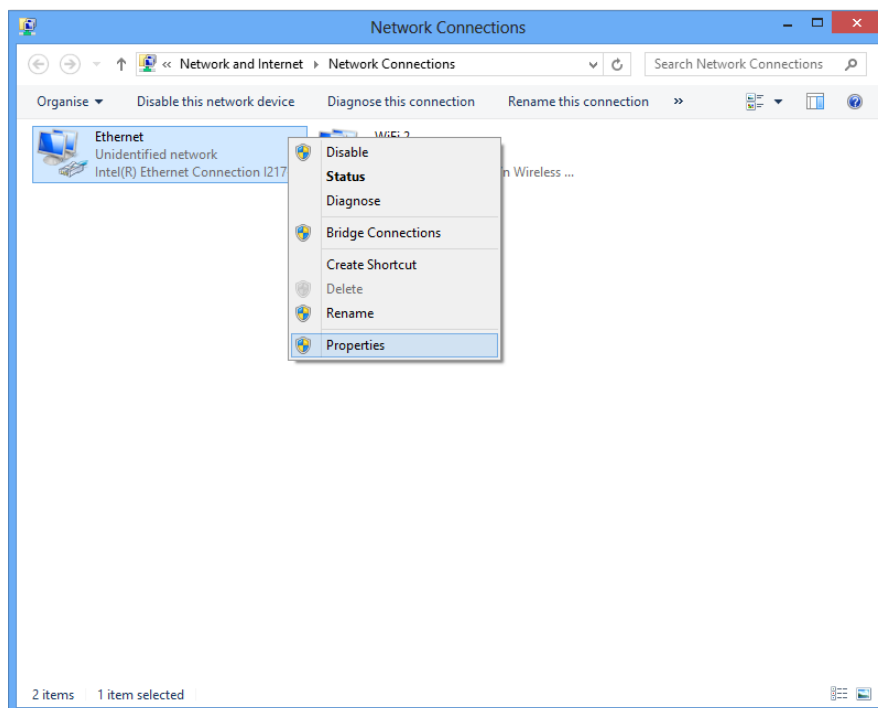

Fig. 10.8: Properties window of the Ethernet network
- c. Right click on the Ethernet icon and select "Properties" from the slide menu (Fig. 10.8).